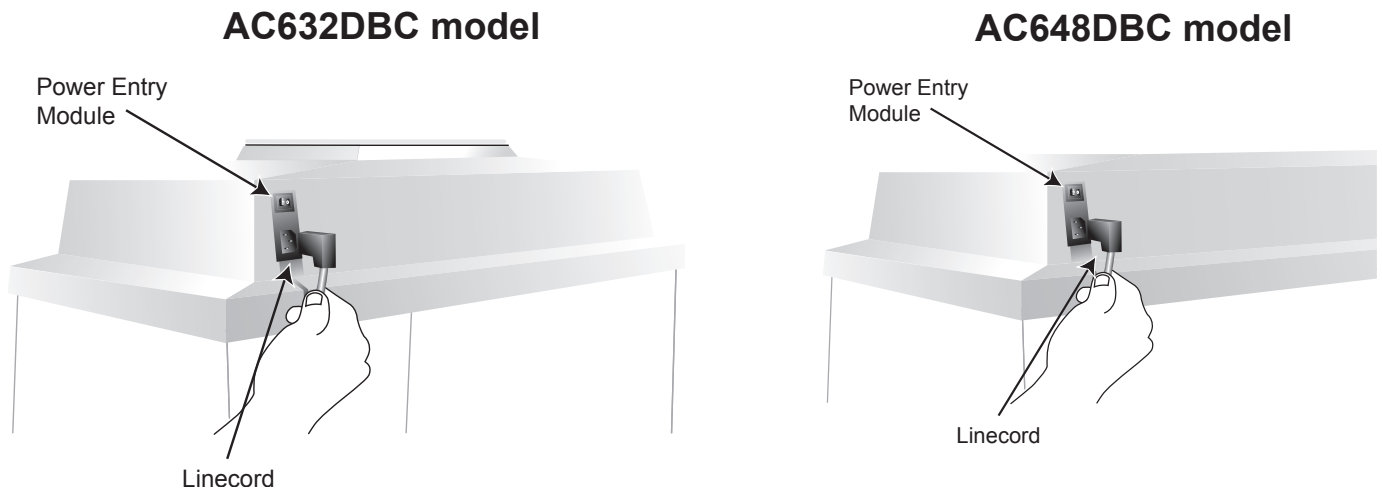

Figure 4, Linecord Connections.
- 8) Ensure that the door switch cable on the right hand side of the head assembly is secure. See figure 4.
- 9) Make sure that any exterior linecord connections are secure and seated properly. These connections are located on the back of the workstation. See figure 4.
- 10) Locate the power entry module on the back of the workstation. Insert the female end of the linecord into the power entry module and the male end into an appropriate electrical outlet. See figure 4.
1. Turn off power at the power entry module. Disconnect linecord from the power entry module. See figure 4. (Page 10)
5. Reconnect linecord to power entry module. Turn the power on at the power entry module. See figure 4. (Page 10)
1. Disconnect linecord from the power entry module. Disconnect the door switch cable and light cables. See figure 4. (Page 10)